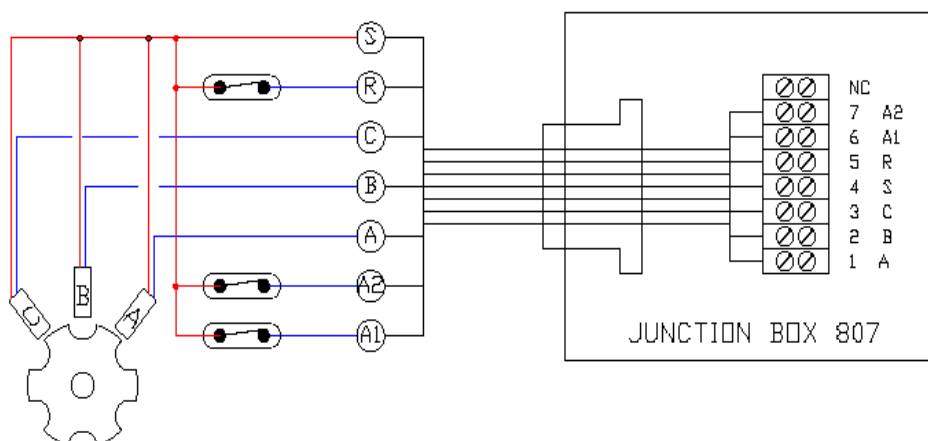

Figure 4 Level transmitter and internal wiring
To set the local level indicator, the float must be placed at a known level (tank-bottom, liquid level or valve top). Compare the known level with the actual read-out of the local level indicator (fig. 4 item 61). During initial installation it is obvious that the factory setting is not similar to the required setting. To obtain an accurate setting the fixing screw of the local indicator (fig. 4) must be unscrewed. Pull out the local indicator and set it (approx.) to the required setting and fit it back into its position, so that the drive gear and indicator gear are not yet engaged. Now make the final setting (setting accuracy 2.5 mm) and fix the local indicator home, making sure that the gears are correctly engaged. Fasten the local indicator by tightening the screw.